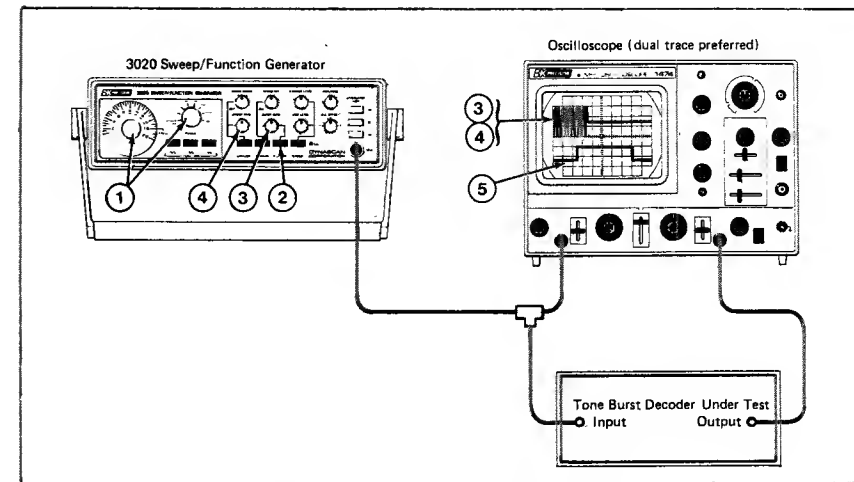

Fig. 20. Tone burst decoder testing.
The following procedure, along with Fig. 20, describes the typical testing method for tone burst decoders:
- Connect equipment as shown in Fig. 20. Set the RANGE switch and FREQ dial to the decoder's acceptance frequency. This should be found in the manufacturer's service literature, or may be marked on the unit. Use a frequency counter if a high degree of accuracy is required.